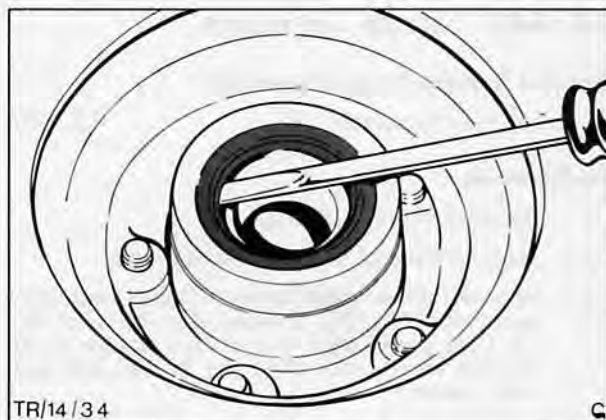

Fig. 34. Levering out grease seal
2. Lever out grease seal from inner bearing, Fig. 34, and remove inner bearing cone.